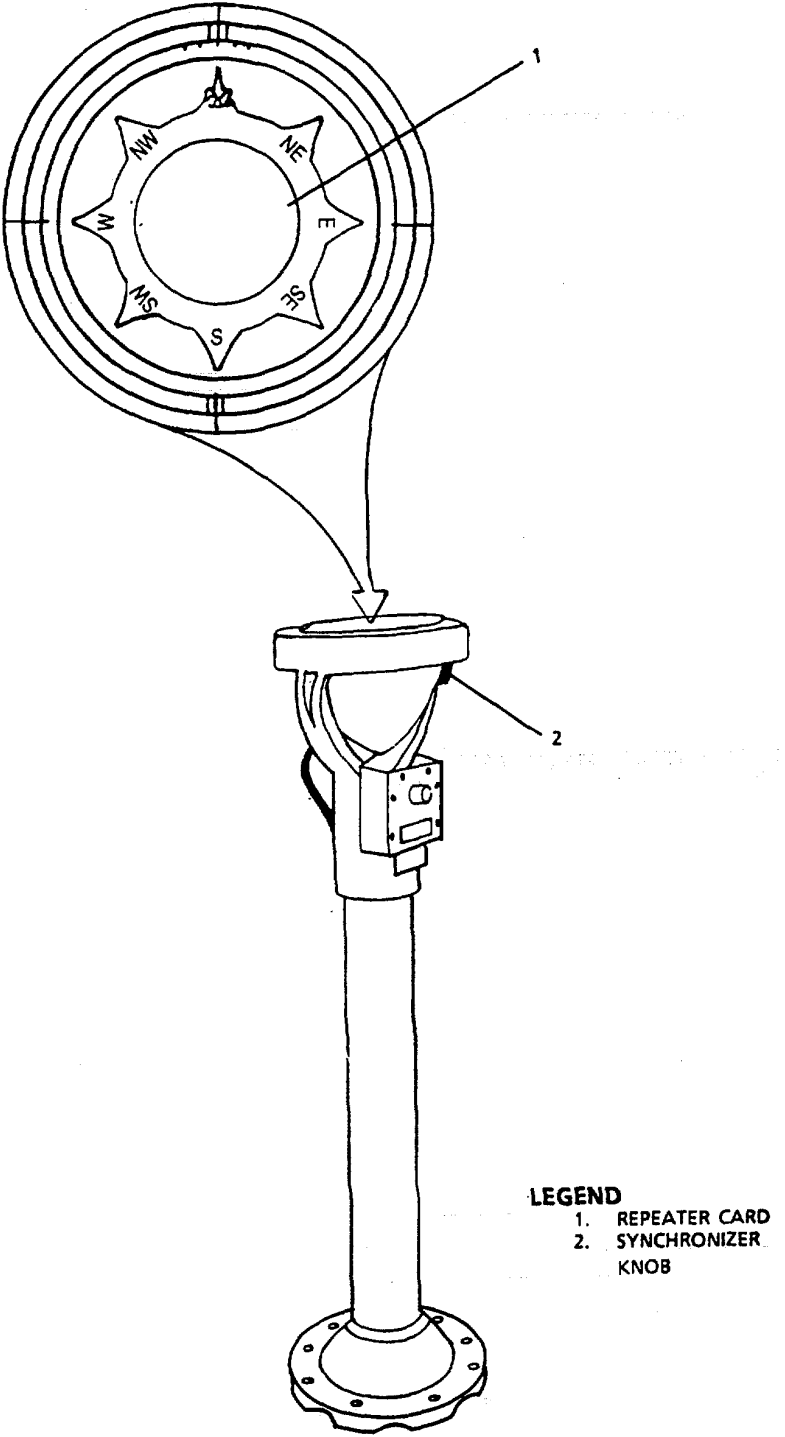

FIGURE 2-120. Standard Bearing Repeater.
- (14) On standard Bearing Repeaters (FIGURE 2-120), press and hold SYNCHRONIZER KNOB (2) to engage gear train.
- (15) Rotate REPEATER CARD (1) to Gyro Compass heading.
- (16) Release SYNCHRONIZER KNOB (2).
- (3) Rotate REPEATER CARD (2) to gyro compass heading.
- (4) Release SYNCHRONIZER KNOB (1).
- (5) On Standard Bearing Repeater (FIGURE 2-120), press and hold SYNCHRONIZER KNOB (2) to engage gear train.
- (6) Rotate REPEATER CARD (1) to gyro compass heading.
- (7) Release SYNCHRONIZER KNOB (2).